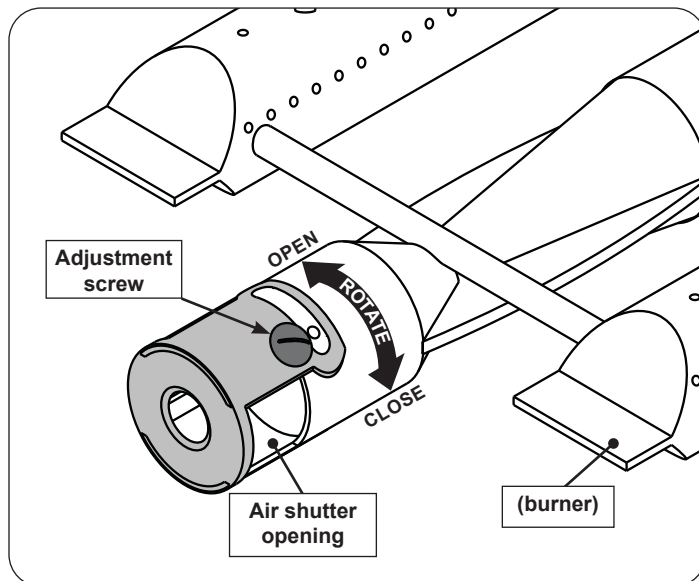

Fig. 43-2 Main burner air shutter adjustment detail
1. To adjust the air shutter, loosen the adjustment screw with a flathead screwdriver. Then rotate the shutter to open or close it. See Fig. 43-2 for details.